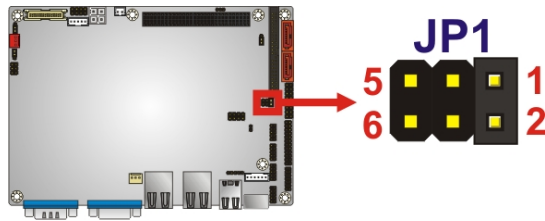

Figure 5-12: COM 2 Function Select Jumper Location
- Jumper Location:** See **Figure 5-12**
The COM 2 Function Select jumper sets the communication protocol used by the second serial communications port (COM 2) as RS-232, RS-422 or RS-485. The COM 2 Function Select settings are shown in **Figure 5-12**.